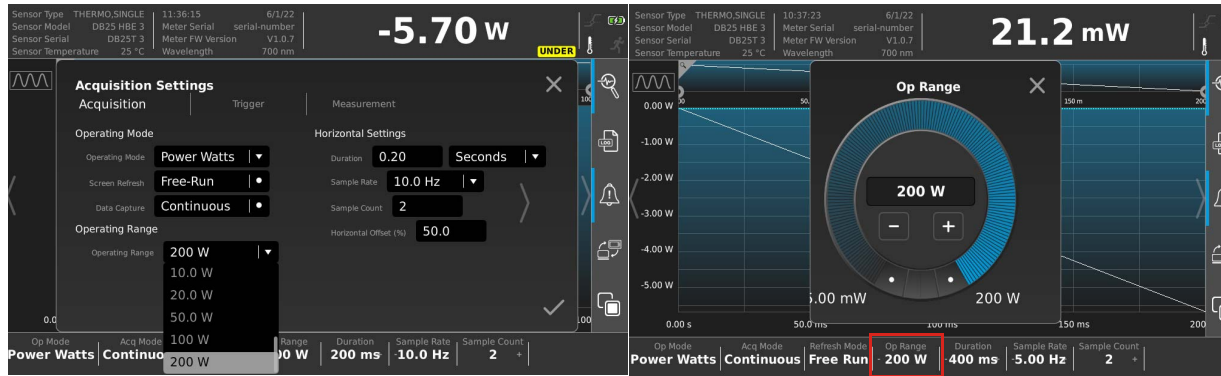

Figure 6-3. Set Operating Range from Settings Menu or Bottom Button Bar
7. In the **Range** field, set the operating range to the next value higher than the maximum expected power. Operating range can also be set by pressing **OpRange** in the bottom menu bar. Refer to Figure 6-3.